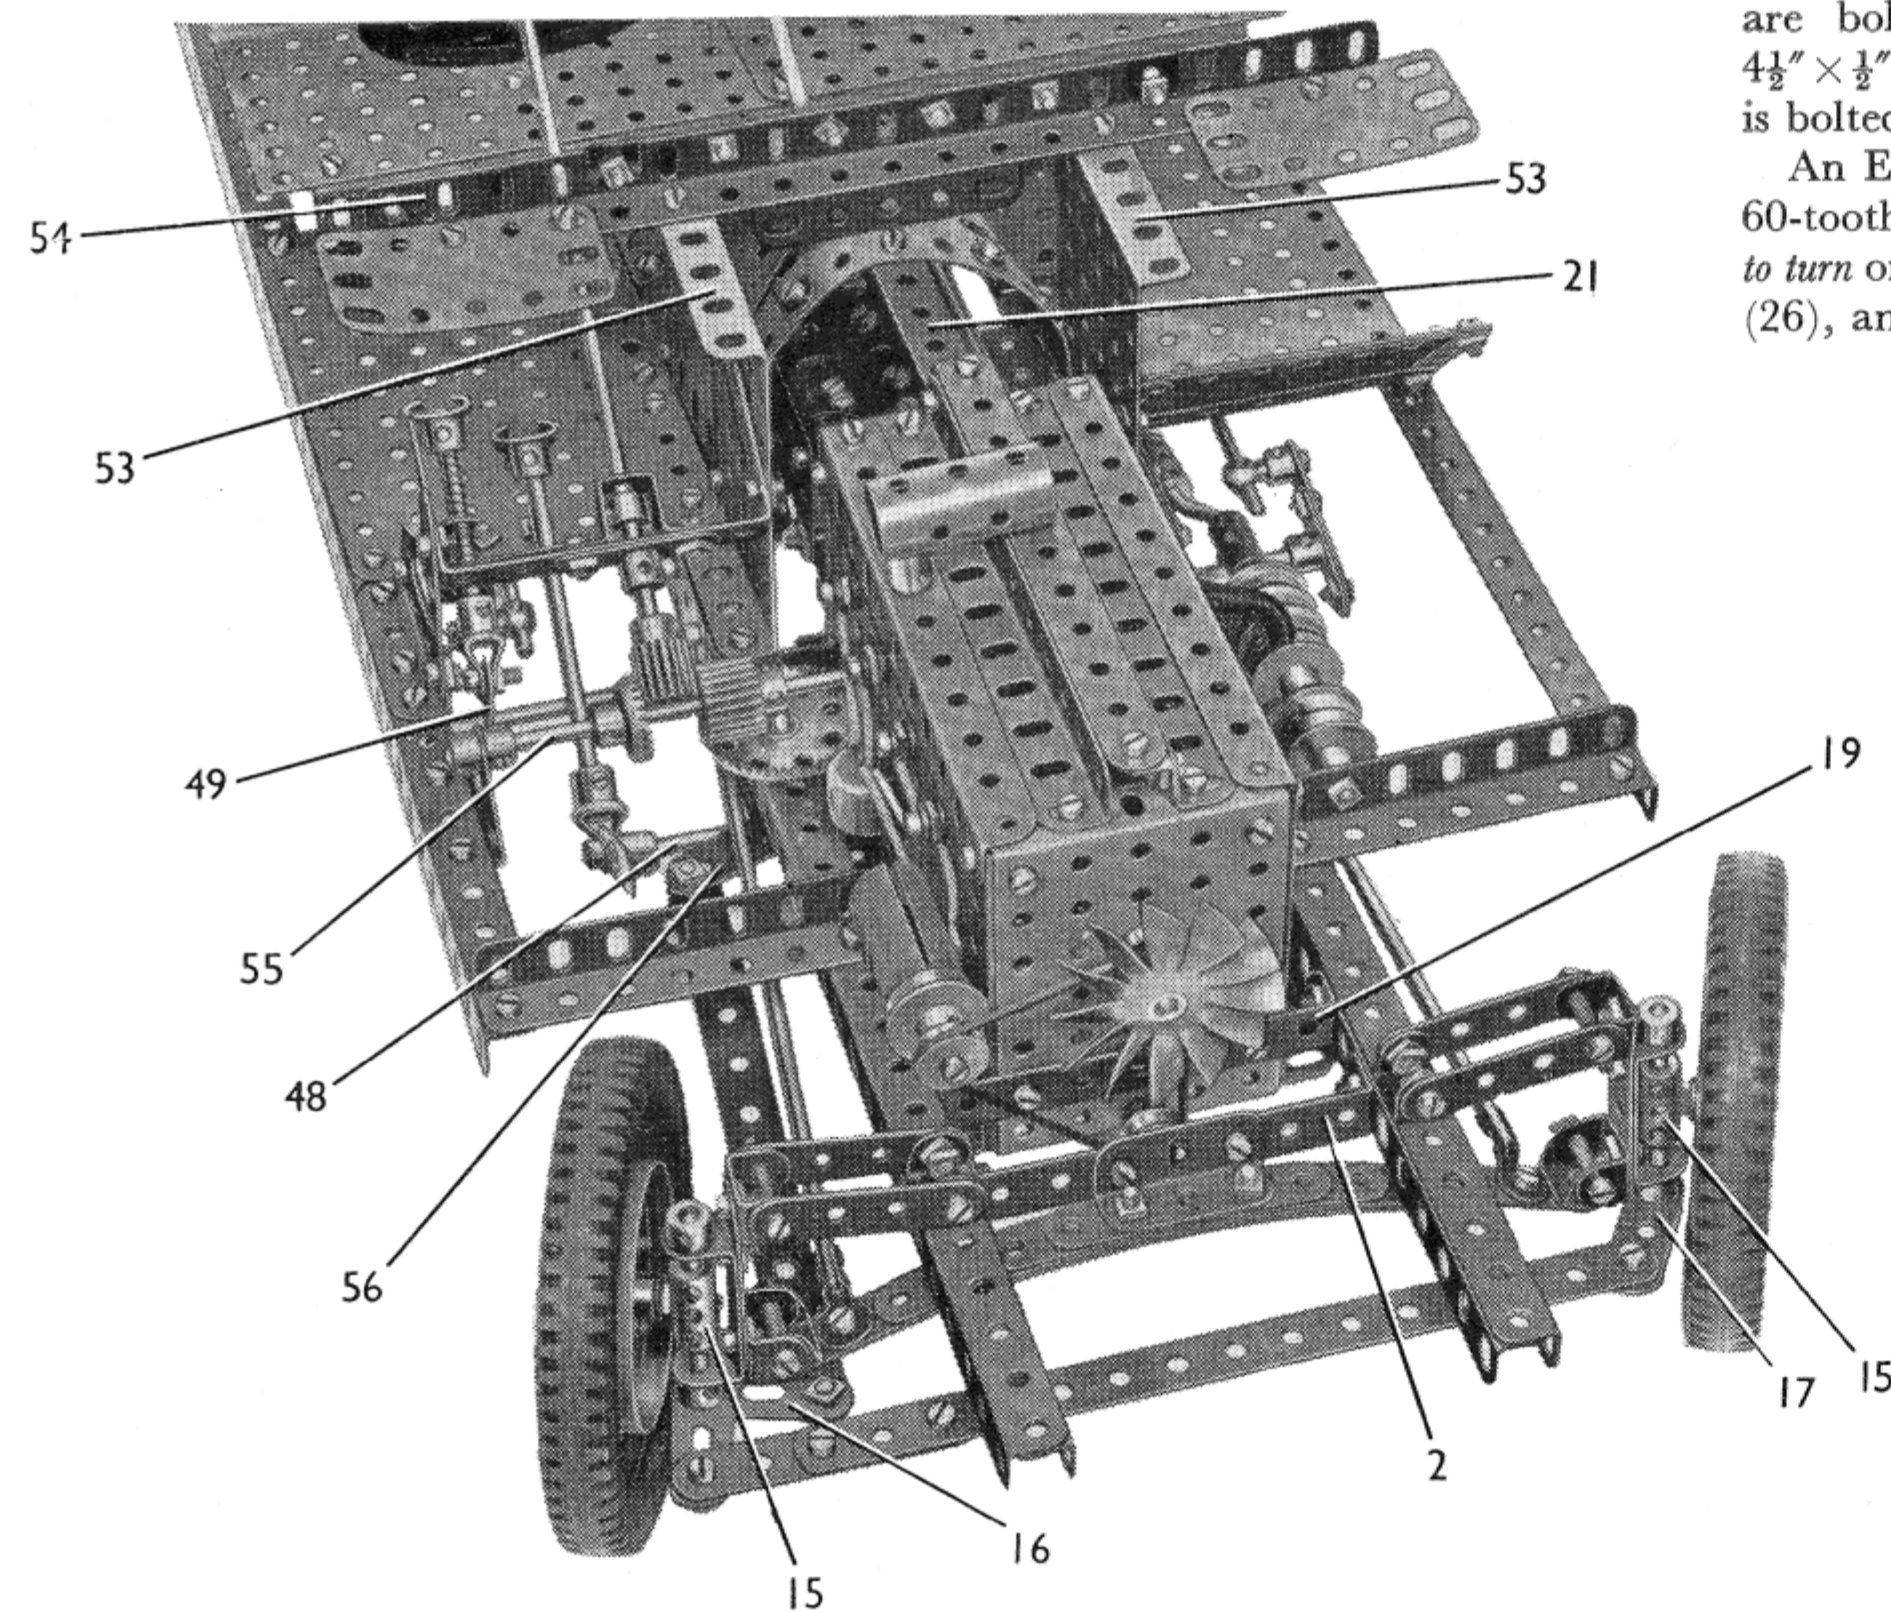
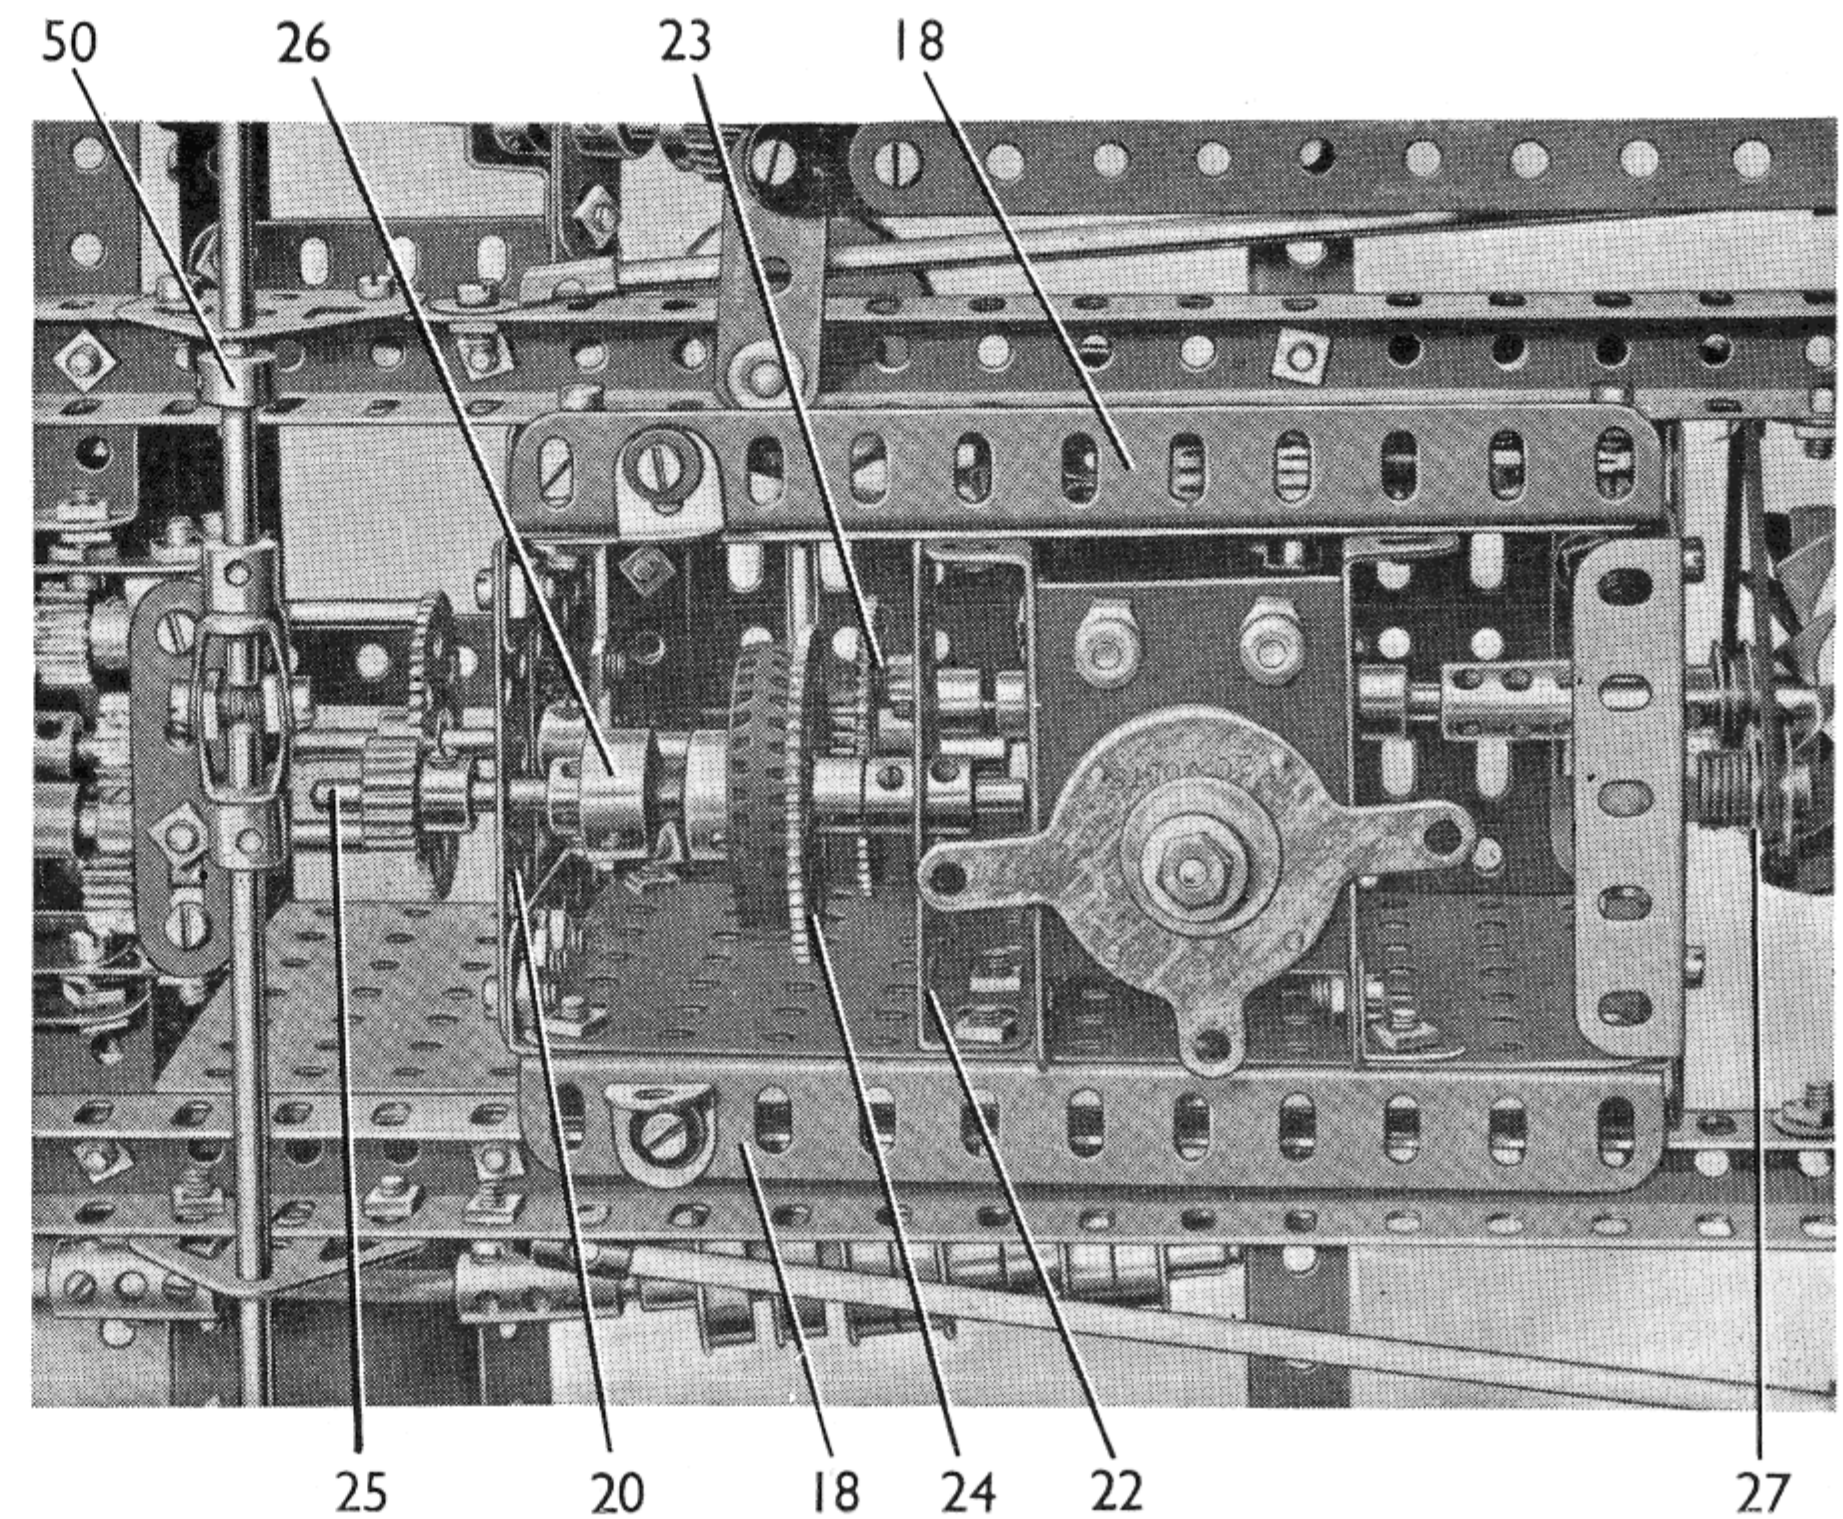

FIG. 4 A front view of the chassis showing the steering mechanism in detail
FIG. 5 The engine unit seen from below
Flat Girder is bolted, and to this is fixed a $9\frac{1}{2}$ " Angle Girder (1). The chassis members are connected by a $3\frac{1}{2} \times \frac{1}{2}$ " Double Angle Strip (2) (Fig. 4), and a $3\frac{1}{2}$ " Angle Girder (3) fixed to Angle Brackets. They are joined also by a $7\frac{1}{2}$ " Angle Girder (4) braced by $1\frac{1}{2}$ " Corner Brackets. The Girder (3) is braced to the channel girders by two 3" Angle Girders.
Construction of the Front Axle (Fig. 4)
The Engine Unit (Figs. 4, 5 and 6)
Each side of the engine unit (Figs. 4 and 6) is a $5\frac{1}{2}$ " \times $3\frac{1}{2}$ " Flat Plate fitted at each end with a $3\frac{1}{2}$ " Angle Girder, at the top with a $5\frac{1}{2}$ " Angle Girder, and at its lower edge with a $5\frac{1}{2}$ " Angle Girder (18) (Fig. 5). The sides are connected at the front by a $3\frac{1}{2}$ " \times $2\frac{1}{2}$ " Flanged Plate, to which a $3\frac{1}{2}$ " \times $\frac{1}{2}$ " Double Angle Strip (19) is bolted, and at the rear are joined by a $2\frac{1}{2}$ " \times $2\frac{1}{2}$ " Flat Plate, a $3\frac{1}{2}$ " \times $\frac{1}{2}$ " Double Angle Strip and a $2\frac{1}{2}$ " Strip (20). At the top of the unit two $5\frac{1}{2}$ " Angle Girders
The dynamo is a Sleeve Piece fitted at one end with a Chimney Adapter and at the other with a $\frac{3}{4}$ " Flanged Wheel. A $\frac{1}{2}$ " loose Pulley is free to turn on a $\frac{1}{2}$ " Bolt gripped in the Flanged Wheel, and the Sleeve Piece is spaced from the engine unit by a nut on the bolt that holds it in place. A $\frac{1}{2}$ " loose Pulley (27) (Fig. 5), is free to turn on a Pivot Bolt. The three $\frac{1}{2}$ " Pulleys are connected by a Driving Band.
A $\frac{1}{2}"$ diameter $\frac{1}{2}"$ face Pinion on the lower end of the steering column engages a $\frac{3}{4}"$ Contrate on a $5"$ Rod (55) (Fig. 4). This Rod is supported in one side of the engine unit and in a Trunnion fixed to one of the Girders (9). A $\frac{3}{4}"$ diameter $\frac{1}{2}"$ face Pinion on Rod (55) meshes with a $1\frac{1}{2}"$ Contrate on a vertical $1\frac{1}{2}"$ Rod. The $1\frac{1}{2}"$ Rod is passed through one of the chassis members and is held in place by a Collar. A Crank (56) is fixed on the lower end of the $1\frac{1}{2}"$ Rod, and to it is lock-nutted a Fishplate. The Fishplate is bolted to a $5\frac{1}{2}"$ Strip lock-nutted to the Bell Crank (16).